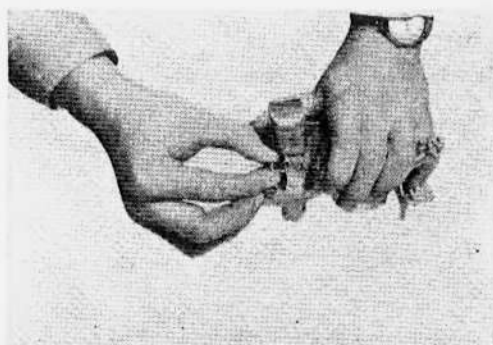

Figure 130
(19) Take out float and needle valve from air horn (Fig. 130).